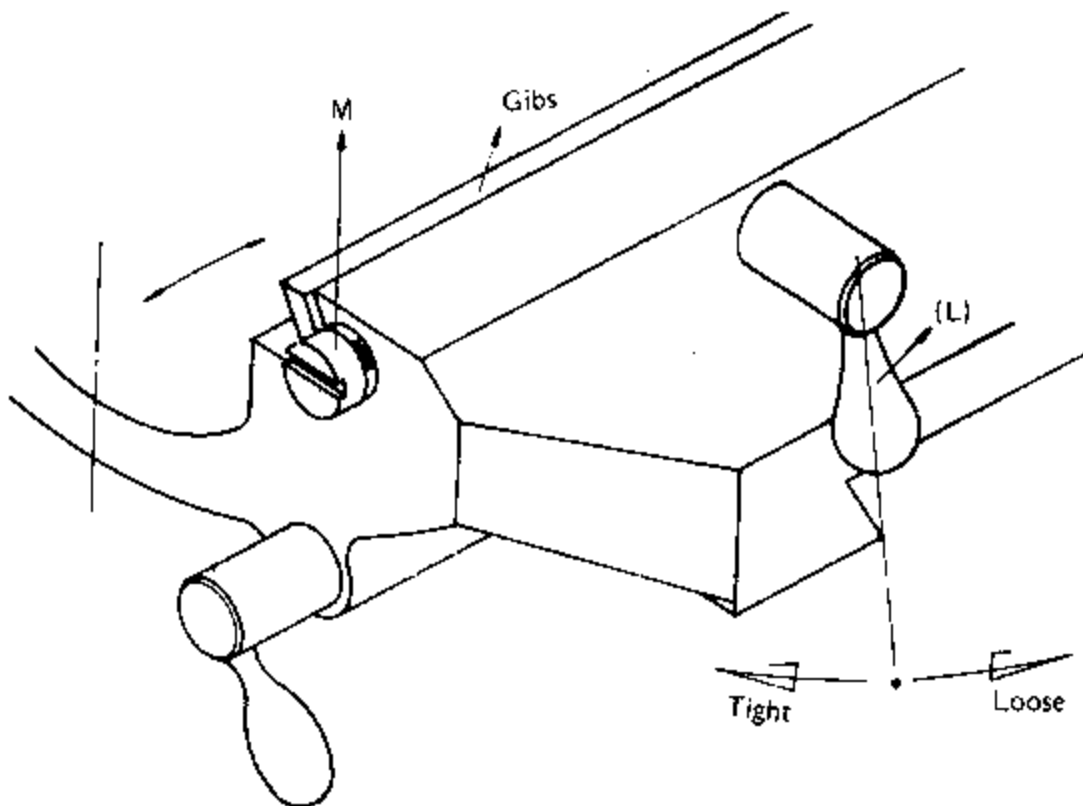

Figure 30
A. Adjustment of Work Table gibs (Vide Figure 30):